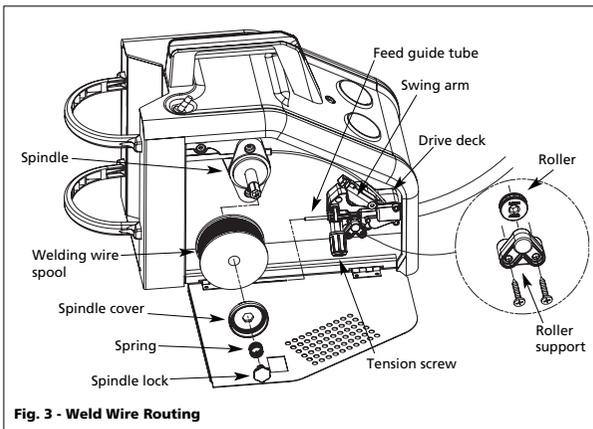

Fig. 3 - Weld Wire Routing
- a. Diameter of welding wire matches groove in drive roller on wire feed mechanism (See Fig. 3). The drive roller is marked with metric sizes: .6 mm = .024" .8 – .9 mm = .030 – .035"